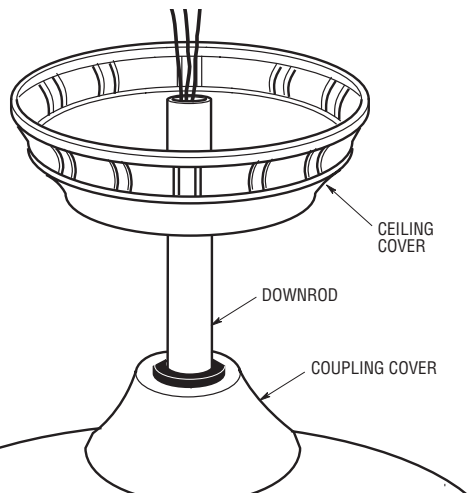

Figure 8
- 10. Make sure the grommet is properly installed in the coupling cover, then slide the coupling cover on the downrod until it rests on the motor housing. Place the ceiling cover over the downrod. Be sure that the ceiling cover and the coupling cover are both oriented correctly (Figure 8).